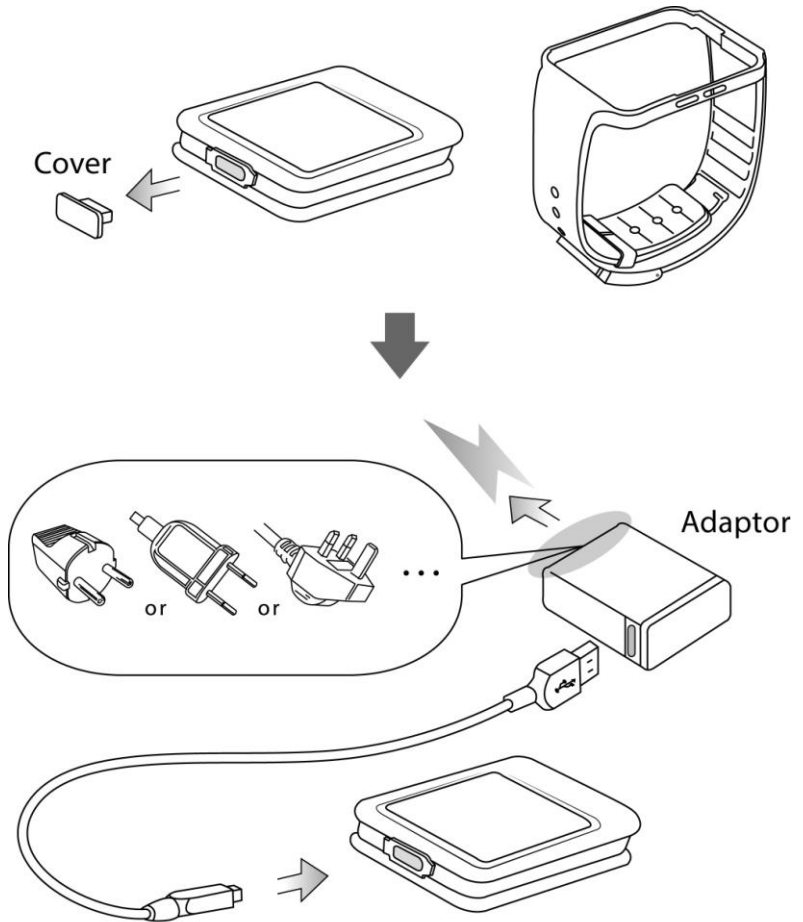

Figure 3. Battery Charge
3. Plug the other end of the micro USB cable into the micro USB AB port of your oCare™ Pro 100 as illustrated in **Figure 3**.